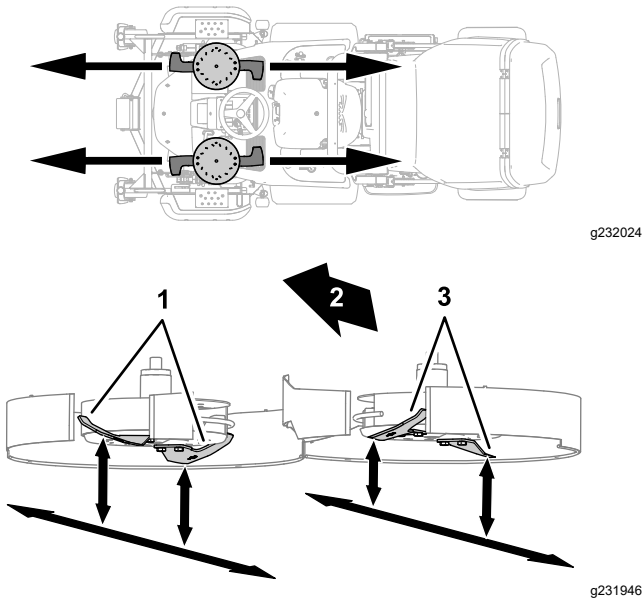

Figure 125
3. Align a wing blade to the forward-most position (Figure 125).